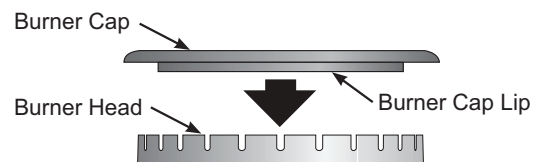

Figure 17: Burner Cap
1. Remove the burner cap from the burner head (see Figure 17). Clean the cap with hot soapy water and dry thoroughly.